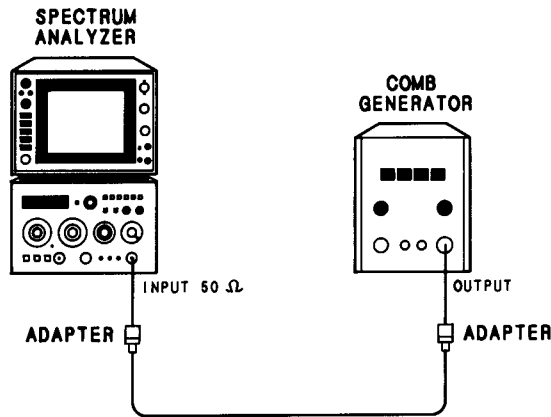

FIGURE 4-5. RESIDUAL FM TEST SETUP
- 2. Connect OUTPUT of comb generator to spectrum analyzer INPUT 50Ω as shown in Figure 4-5.